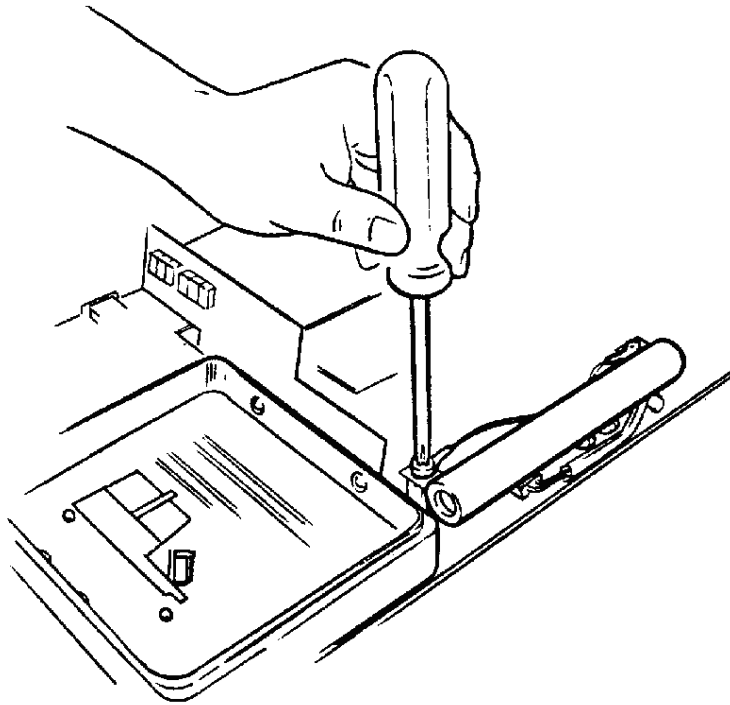

Figure 2-10. Paddle tray test load resistor disconnect.
(1) Remove the two screws (orange lead wires) which connect the test load resistor to the paddle tray (figure 2-10).
(2) Turn over the defibrillator board and remove the six bottom screws attaching the paddle tray to the board.
(3) Remove the paddle tray.